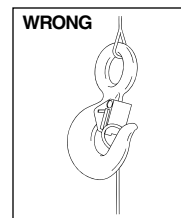

Figure 4
- Always make sure the hook supports the load. (See Figure 3). The latch must never support the load (See Figure 4).